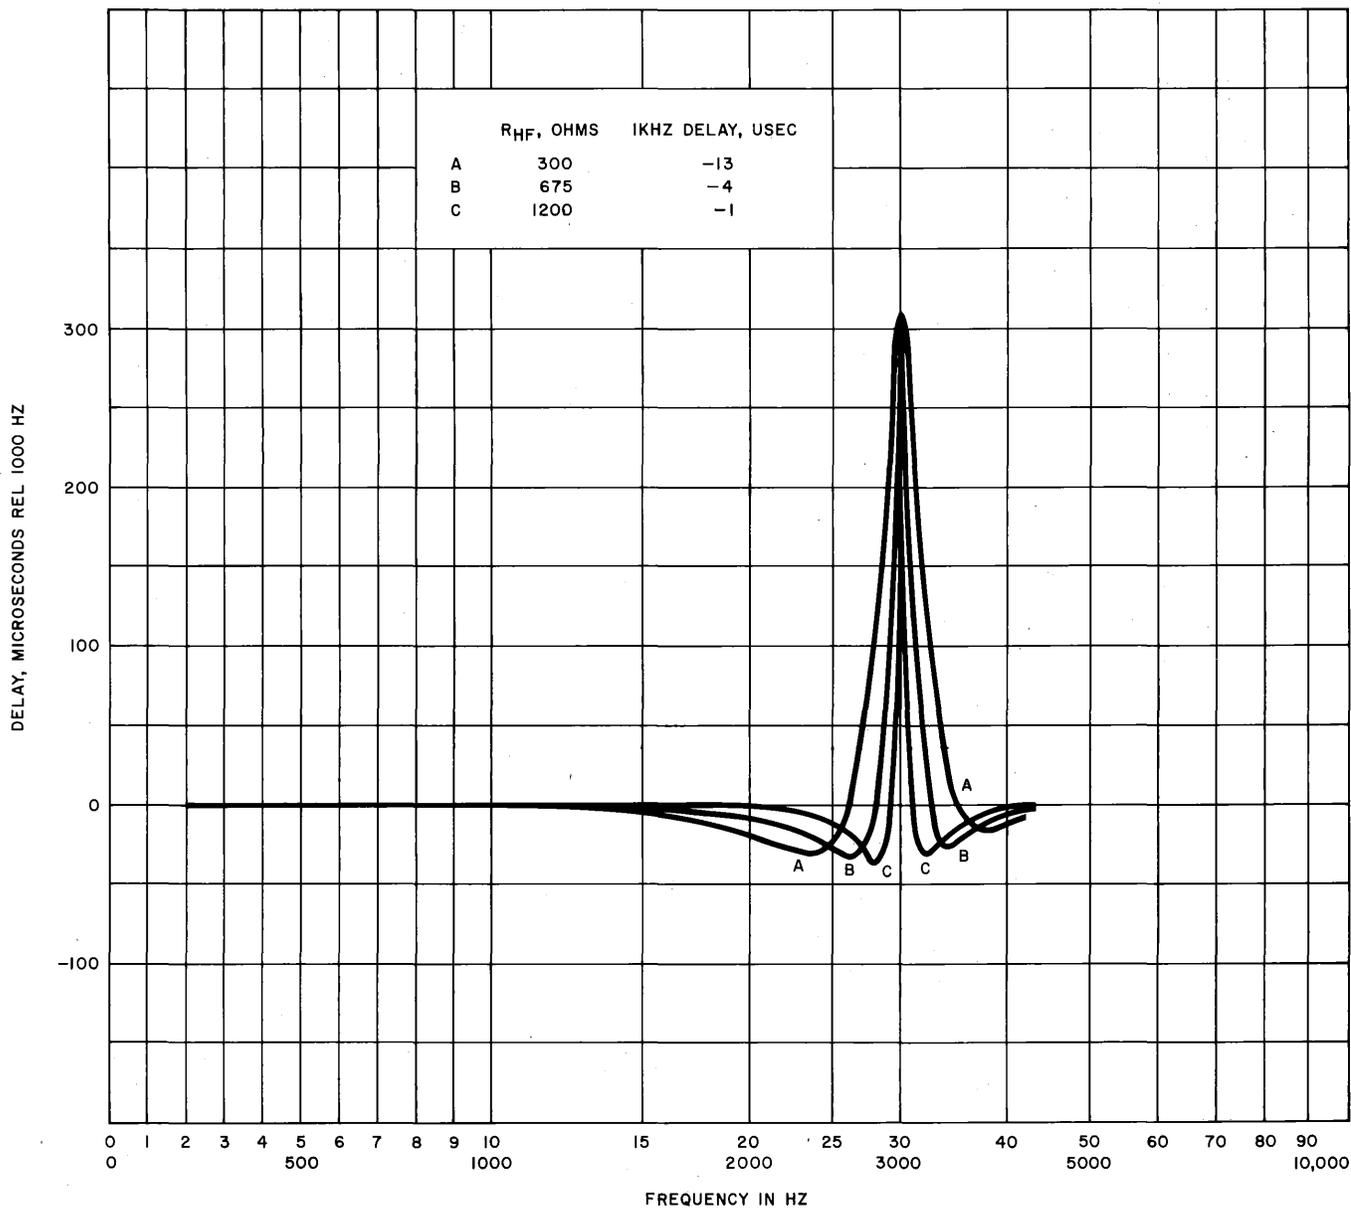

Fig. 9—4182C Network, High-Frequency Section, Delay-Frequency Characteristics Between 600-Ohm Impedances—At Various Settings of R_{Hf}
4.07 While the shunt arm high-frequency components provide compensation for amplitude distortion, they also introduce delay distortion. Figure 9 illustrates typical delay-frequency characteristics obtained by varying R_{HF} .